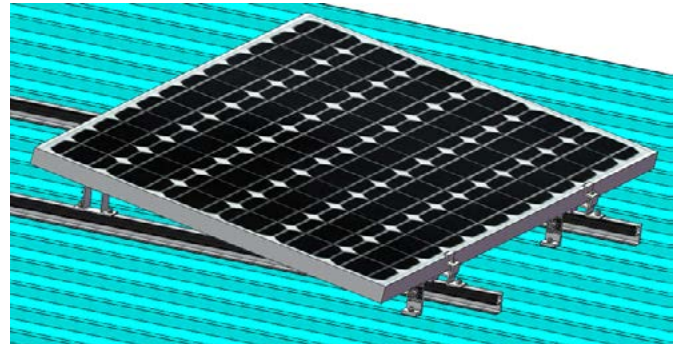
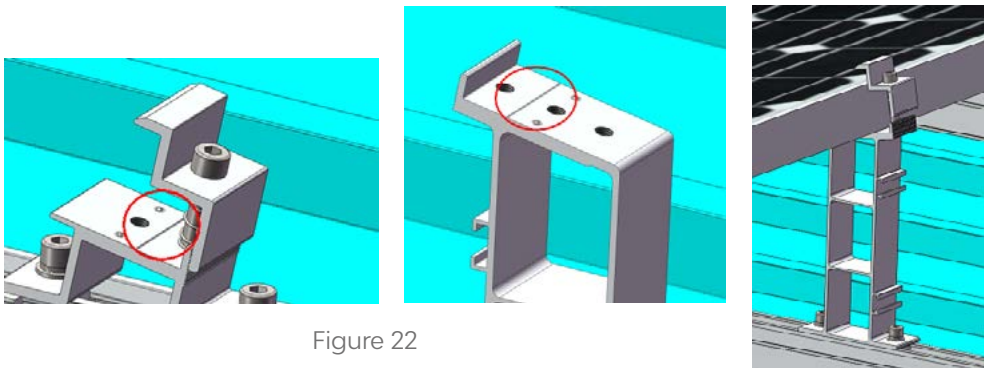

Figure 21
Figure 22
1) Place the PV Modules on the Front and Rear Leg as shown Figure 21. The outside edge of the frame of the PV Modules must overlap the marking lines on the Front and Rear Legs as shown in Figure 22. The pins of Front and Rear legs are used for creating earthing continuity from PV modules to both legs.